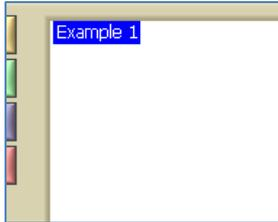

Figure 1.2.3-1: The list-box on **Manage database Connection** window.
1. Select a Database Connection from the list-box. (Figure 1.2.3-1)